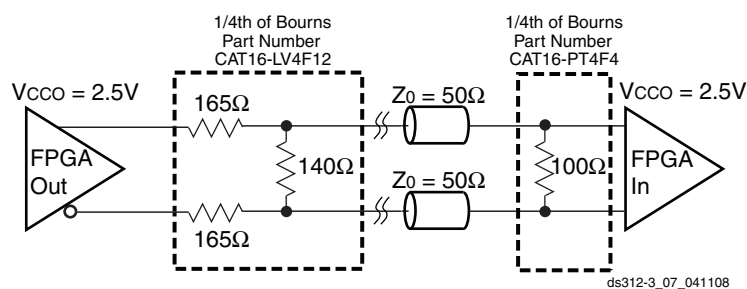

Figure 71: External Termination Resistors for BLVDS Transmitter and BLVDS Receiver
2. Output voltage measurements for all differential standards are made with a termination resistor (R_T) of 100 Ω across the N and P pins of the differential signal pair. The exception is for BLVDS, shown in Figure 71.